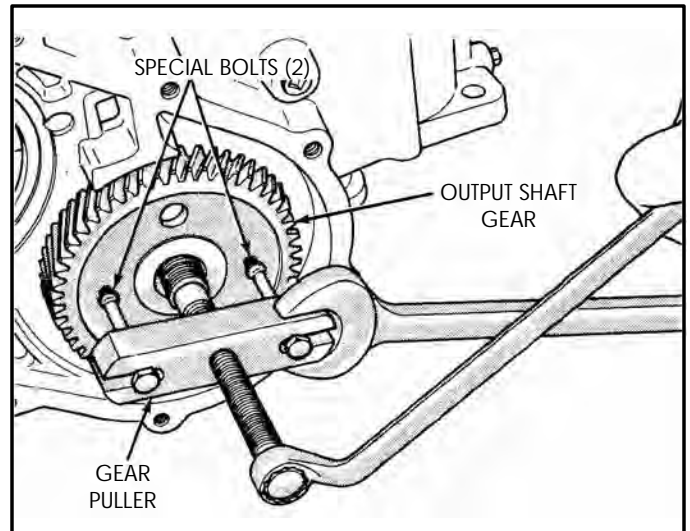

Figure 133
17. Install gear puller onto the output shaft gear, as shown in Figure 133, and remove gear.